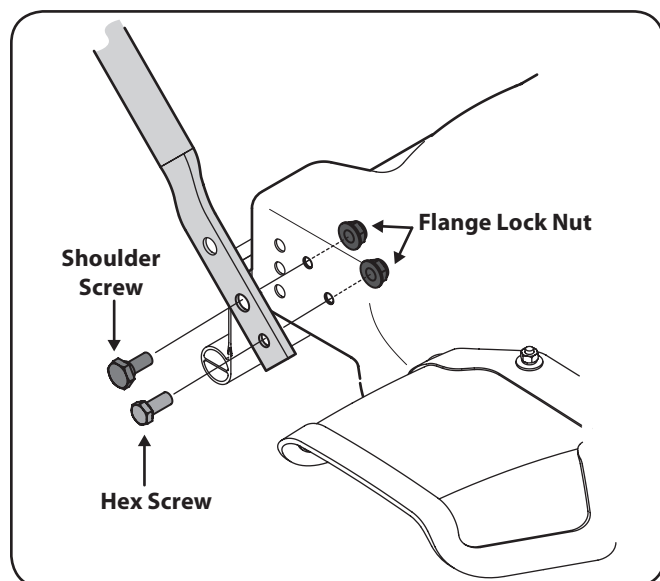

Figure 3-4
2. Secure the lower handle to the deck using the hex screws (1/2-in. socket wrench), shoulder screws (5/8-in. socket wrench), and flange lock nuts (1/2-in. socket wrench). See Figure 3-4.